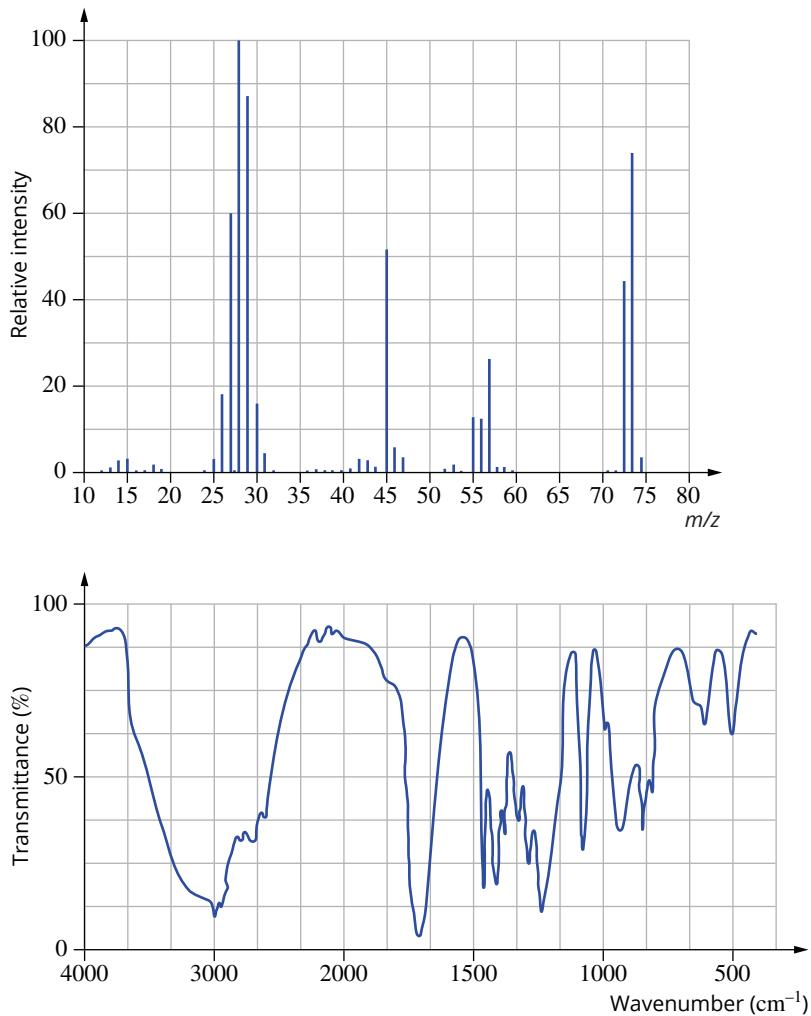

FIGURE 12.4.7 Spectra for an unknown molecule.
- 2** An unidentified organic compound is composed of 48.6% carbon, 8.2% hydrogen and 43.2% oxygen. Use this information and the spectra in Figures 12.4.7 and 12.4.8 to determine the name of the compound.